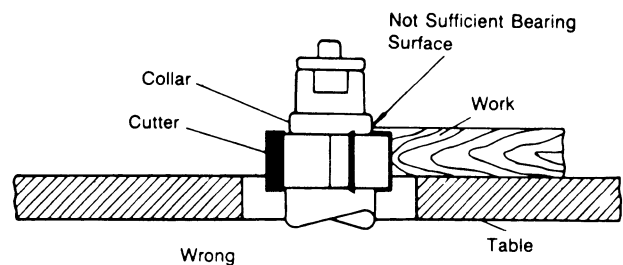

Fig. 11
- A portion of the work's edge must remain untouched by the cutter so that the collar will have sufficient bearing surface. See figure 11 for an example of **insufficient** bearing surface.